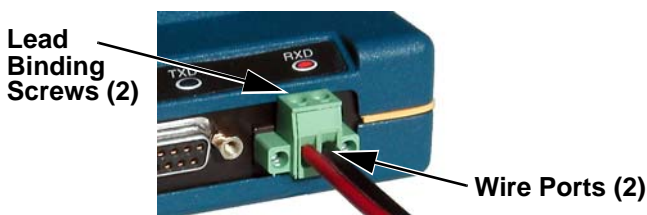

Figure 14. Power Connector
- Measure and install the primary power for the transceiver. It must be within 6–30 Vdc (including transients) and be capable of providing 7.5 watts over this voltage range. (Typical current draw is 400 mA @13.8 Vdc; 0.9 A @6 Vdc.) A power connector with screw-terminals is provided with each unit. Strip the wire leads to 0.25"/6 mm. Be sure to observe proper polarity. The left pin is the positive input; the right is negative. (See Figure 14.)
Only the power connector, shown in Figure 14 with screw terminals and two retainer screws should be used with this unit.